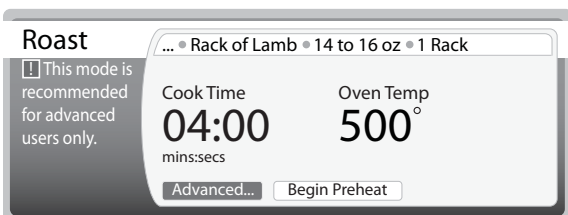

Figure 2.8: Selecting Advanced
In the advanced cook mode (Figures 2.8 and 2.9), the user can adjust the airflow and microwave power levels of a preprogrammed setting. In addition to customizing an existing setting, making adjustments in the advanced cook mode enables the user to develop new settings from pre-existing ones. A high level of familiarity with the oven is suggested before attempting to make changes in this mode.
- Use the inner CookWheel knob to scroll to “Advanced...” and press the knob to select it (Figure 2.8).